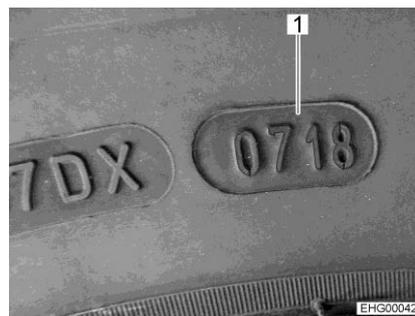

Fig. 231 DOT number
- ▷ Tyres must not be older than 6 years as the material will become brittle over time. The four-digit DOT number (Fig. 231,1) on the tyre flank indicates the date of manufacture. The first two digits designate the week, the last two digits the year of manufacture.